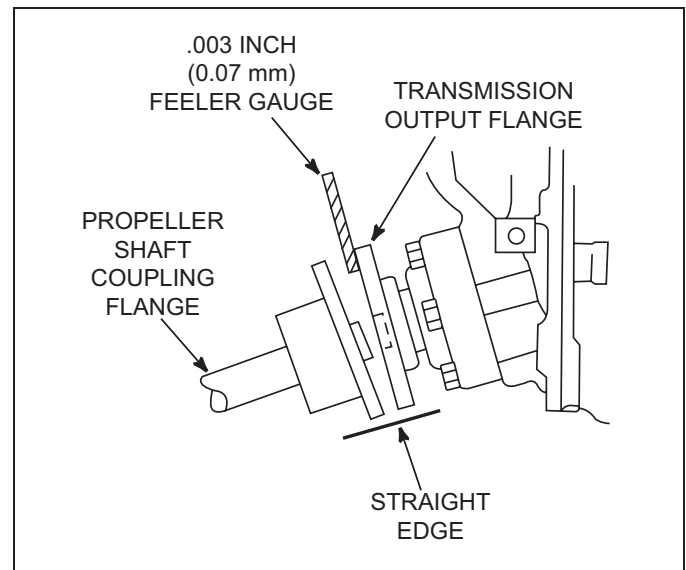
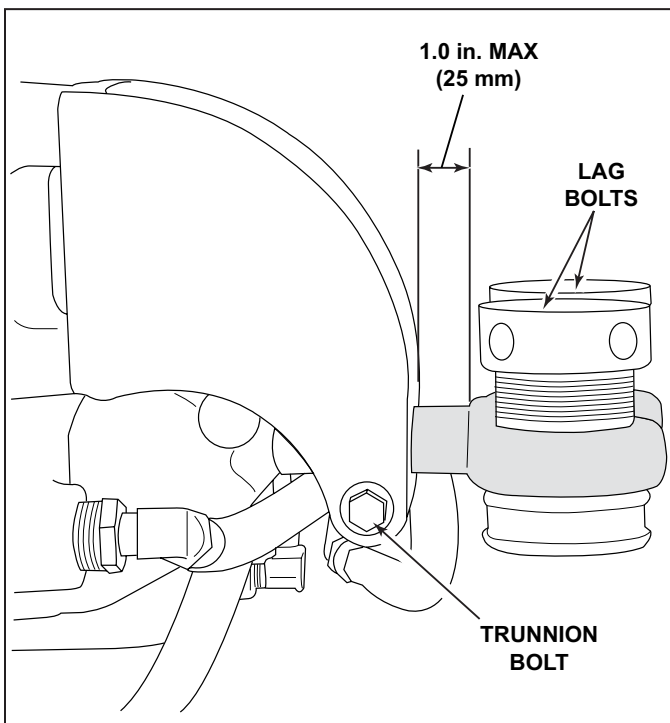

Figure 10-22 Angular Alignment
Figure 10-25 Engine Extension
3. Check that the coupling center lines align by butting the propeller shaft coupling against the transmission coupling (Figure 10-22). The shoulder on the propeller shaft coupling face should engage the recess on the transmission coupling face, with no resistance.
- **LEFT or RIGHT OFFSET ADJUSTMENT:** Loosen the trunnion clamping bolt and the nut on all four mounting brackets. Move the engine to the left or right, as necessary, to obtain the proper alignment. (Figure 10-25) After adjustment is complete, tighten all trunnion bolts.
5. Check for angular misalignment (Figure 10-22). Hold coupling faces tightly together, by hand, and check for a gap between the coupling faces, with a 0.003 in. (0.07 mm) feeler gauge, at 90-degree intervals (Figure 10-25).
- **LEFT or RIGHT ANGULAR ADJUSTMENT:** Loosen the trunnion clamping bolt and the nut on all four mounting brackets. Move the engine to the left or right, as necessary, to obtain the proper alignment. (Figure 10-25) After adjustment is complete, tighten all trunnion bolts.